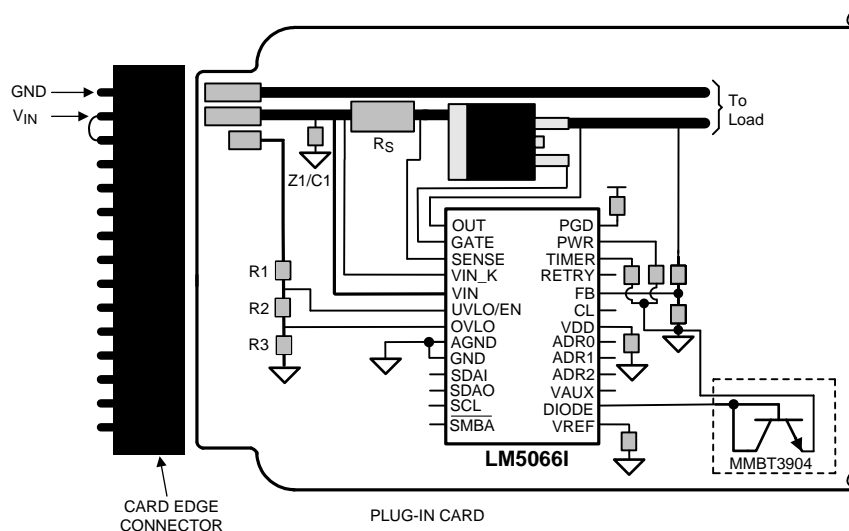

Figure 16. Recommended Board Connector Design
6. The sense resistor (RS) should be placed close to the LM5066I. A trace should connect the VIN pad and Q1 pad of the sense resistor to VIN_K and SENSE pins, respectively. Connect RS using the Kelvin techniques shown in Figure 16.